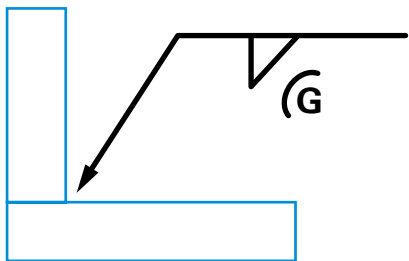

Figure 4
11. The finish of the weld face in *Review Question Figure 4* is to be achieved by \_\_\_\_.